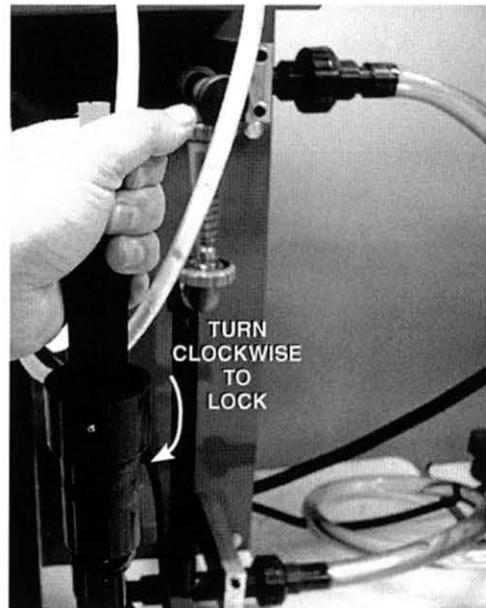

Figure 52. Twist Electrode Housing Clockwise to Lock
- 5. Twist the electrode housing clockwise, as shown in figure 52, to lock the electrode in place.